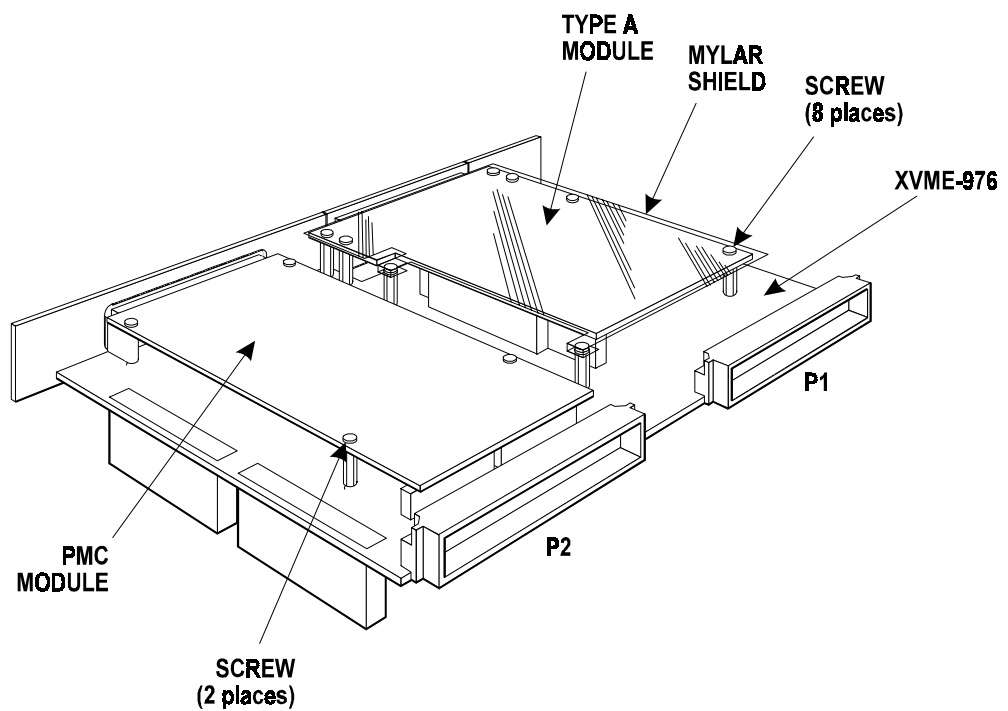

Figure 1-3. XVME-976 with PMC and Type A (4.010 x 5.091") Modules
5. Place the XVME-976 (and any attached boards) on a static-free surface with the XVME-976 on top. See Figure 1-3.